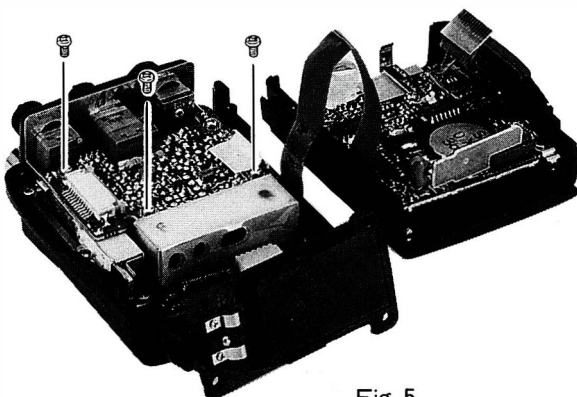

Fig. 5
- ❑ The IF Unit can be removed from the rear half of the transceiver by removing the three screws shown in Figure 5.